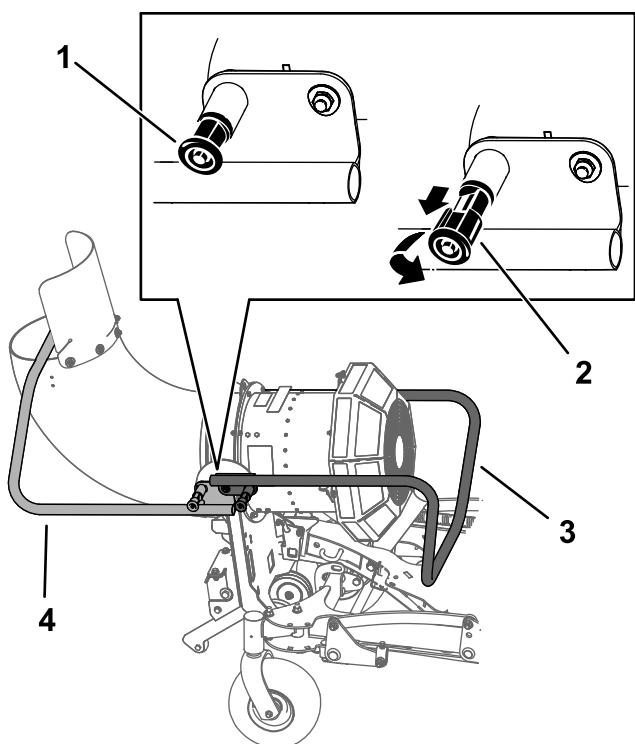

Figure 26
3. Pull out the kickstand locking pins on both sides of the machine, rotate them 90 degrees so that they are disengaged, and raise the kickstand (Figure 26). Engage the knobs and ensure that the pins snap into position.